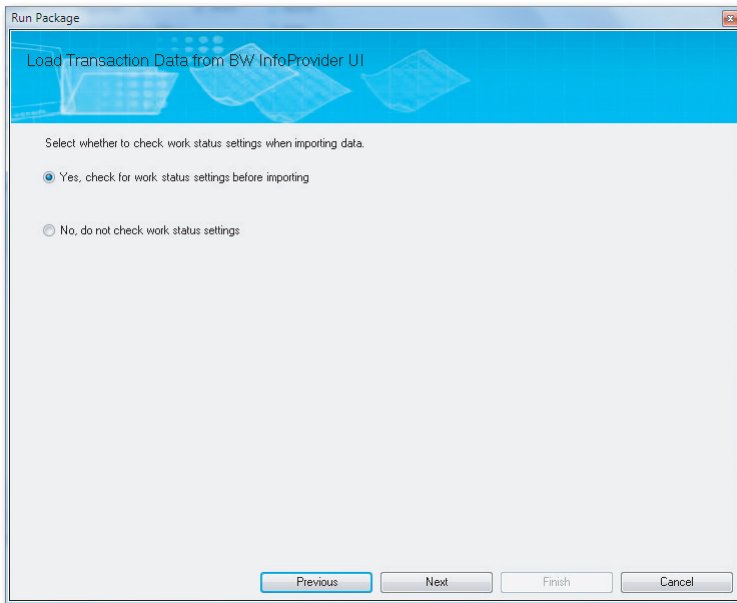

Figure 4.57 Loading Data from an InfoCube into a Model—Part J
11. The work status lets you control updates to the data in a model. We'll discuss work status in detail in Chapter 7. For this example, select **YES, CHECK FOR WORK STATUS SETTINGS BEFORE IMPORTING** so that users can't load data if the work status setting does not allow them to do so (Figure 4.57). Click on **NEXT** to proceed to the next step.